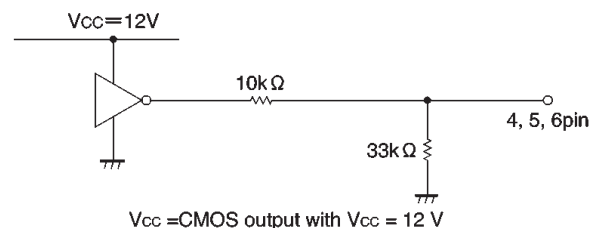

Fig.7
(1) Though the IC input pins can be directly connected with MOS output pins, it is recommendable to connect resistors of about 3 ~ 30k $\Omega$  between the pins for the sake of pin protection (see Fig. 7).
(2) When reversing the rotational direction of a motor, make sure to go through the brake mode in-between the opposite directions. It is recommendable to keep the brake mode for at least 10 $\mu$ s.
(3) Powering procedures should be designed so that  $V_{CC1}$  (pin 7) always rises first and falls last.
(4) The quality of these products have been carefully checked; however, use of the products with applied voltages, operating temperatures, or other parameters that exceed the absolute maximum rating given may result in the damage of the IC and the product it is used in. If the IC is damaged, the short mode and open modes cannot be specified, so if the IC is to be used in applications where parameters may exceed the absolute maximum ratings, then be sure to incorporate fuses, or other physical safety measures.